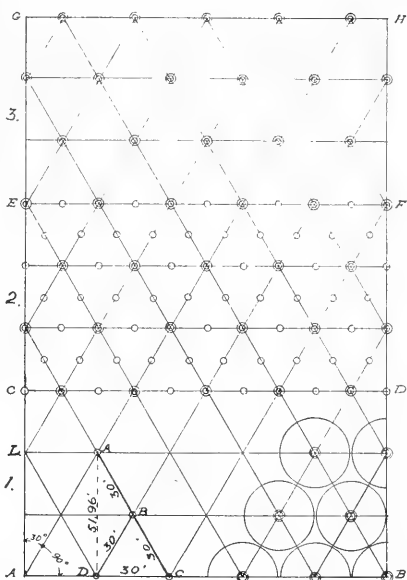

Fig. 74. Shows the Hexagonal System.
2. Fig. 74 shows the hexagonal system, using 30 feet as the distance that the trees are to be apart.